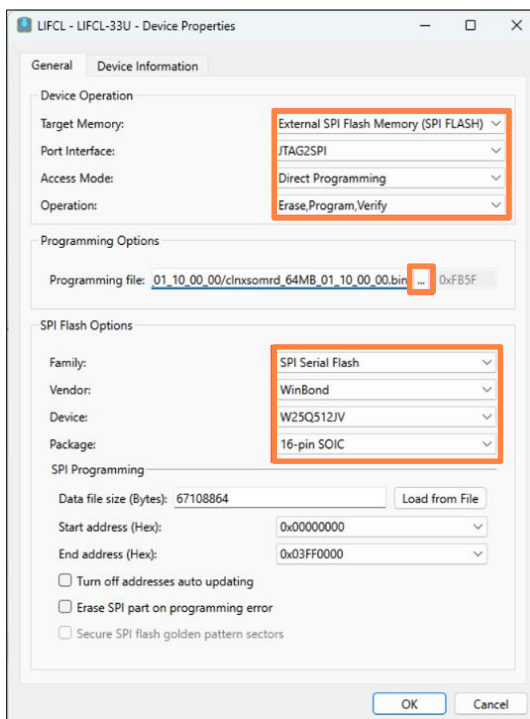

Figure 7.6 Selecting Bitstream File to Program
7. Select the appropriate SPI flash configuration to flash directly to external SPI flash. Refer to Figure 7.6 for the expected settings. Click the ... button beside the file name bar and select the bitstream file from the *CLNX_SPI_IMAGE* folder listed in Table 2.1.